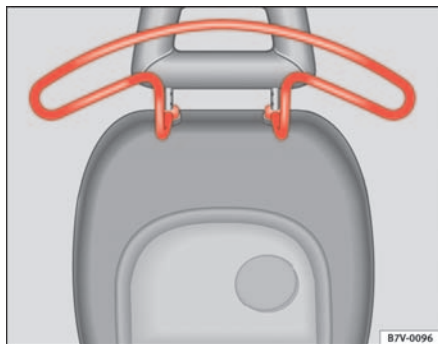

Fig. 108 Clothes hangers on the front seat
- Pull the clothes hanger³³⁾ off the rods of the head restraint ⇒ fig. 108.